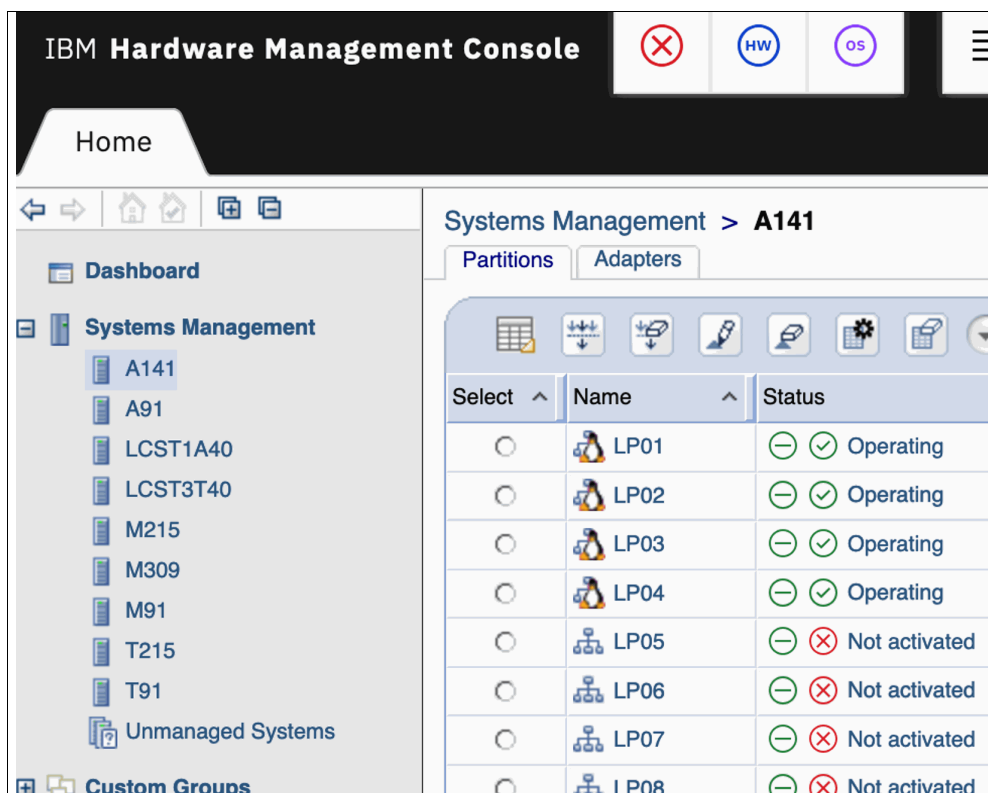

Figure 27 Select the CPC that you want to examine
2. Open the **Systems Management** tree and Select the **CPC** you want to examine (Figure 27).